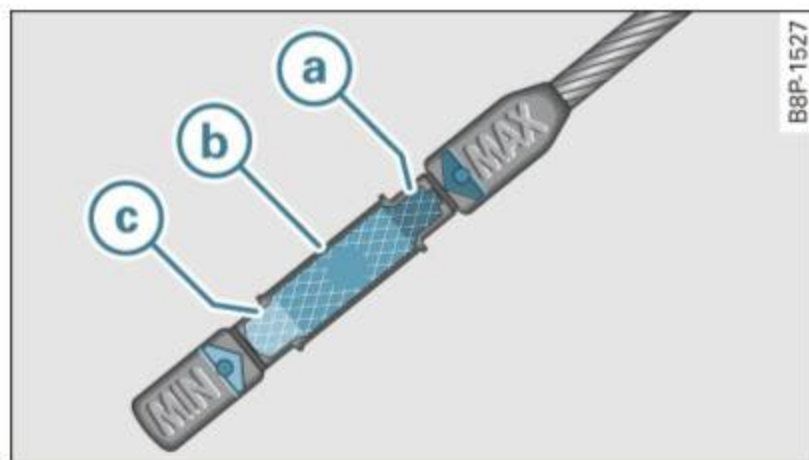
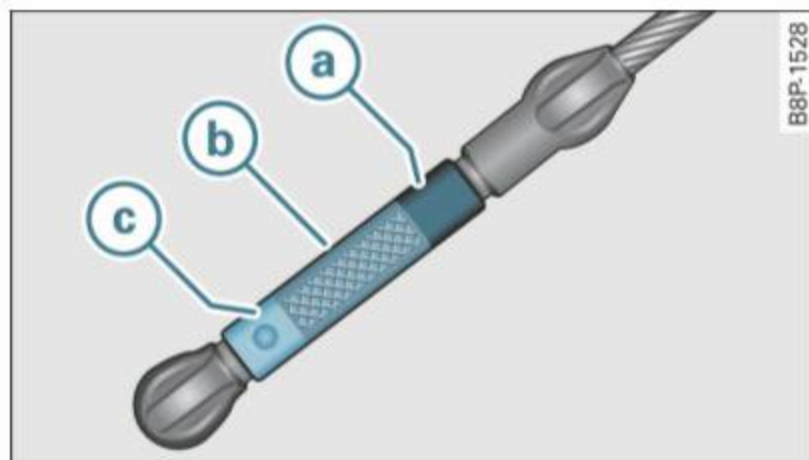

Fig. 163 Dipstick (Version A): Oil level ranges
Fig. 164 Dipstick (Version B): Oil level ranges
- Pull it back out and read off the oil level ⇒ fig. 163 or ⇒ fig. 164. Top off the engine oil, if applicable ⇒ page 232.